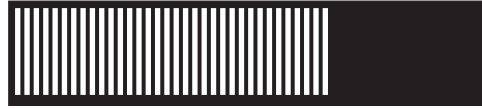

Figure 96. Hardware boot display
- The hardware boot display, shown in Figure 96, is displayed continuously.